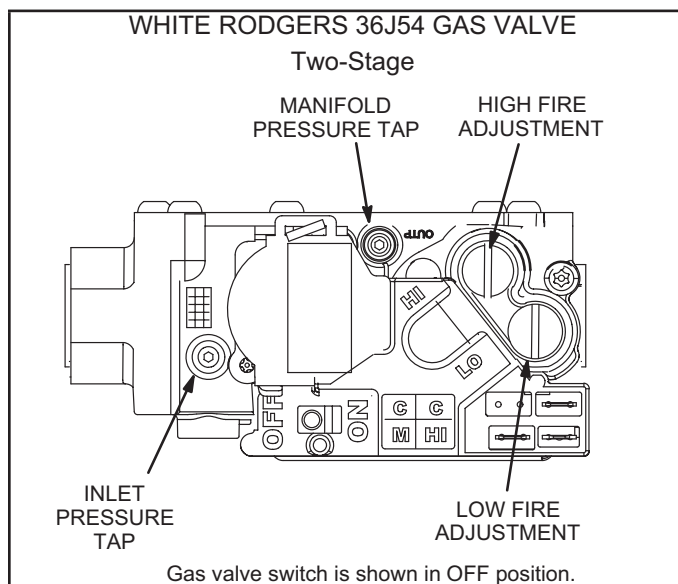

FIGURE 29
Gas Valve Operation (FIGURE 29)
- 5 - Move gas valve switch to **OFF**. See FIGURE 29.
- 6 - Wait five (5) minutes to clear out any gas. If you then smell gas, **STOP!** Immediately call your gas supplier from a neighbor's phone. Follow the gas supplier's instructions. If you do not smell gas, go to the next step.
- 7 - Move gas valve switch to **ON**. See FIGURE 29.